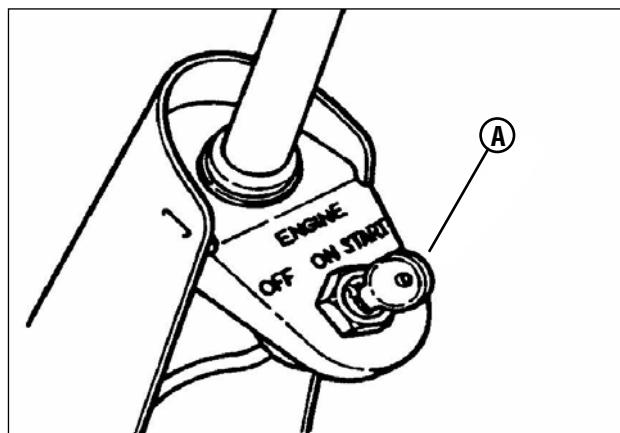

Figure 7: Ignition key
5. Turn the ignition key (**A**, Figure 7) to the “START” position until the engine starts.